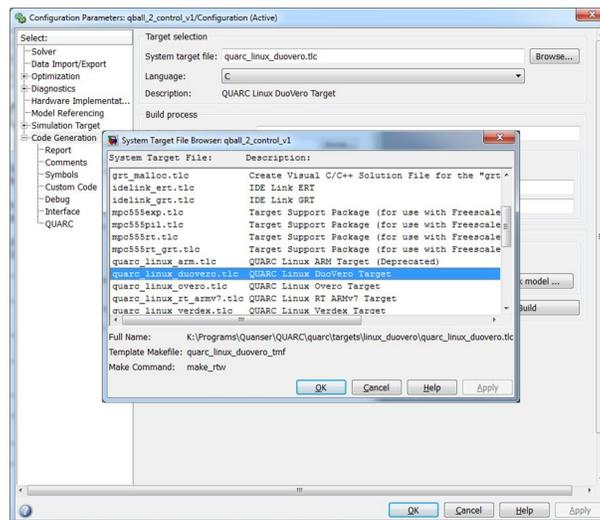

Figure 6.10: **QUARC®** Option Menu
3. The System target file under **Code Generation** should be `quarc_linux_duovero.tlc`. Browse through the system target list to locate the proper file if necessary (Figure 6.10).